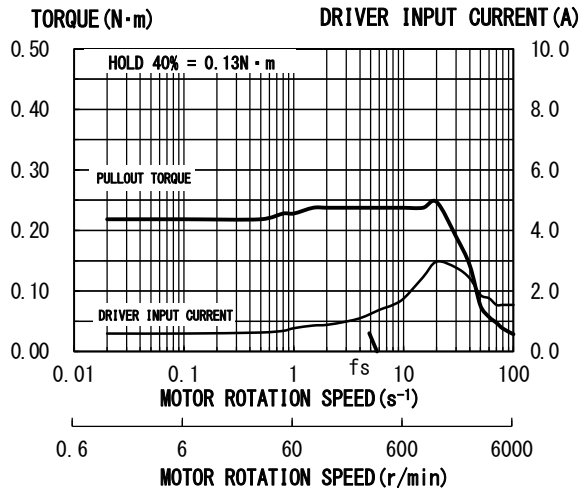

Fig. 8
| | PKP544N18A (B) 2 | 1.8 | 9 | OFF | OFF | OFF | ON | OFF | Fig. 8 |